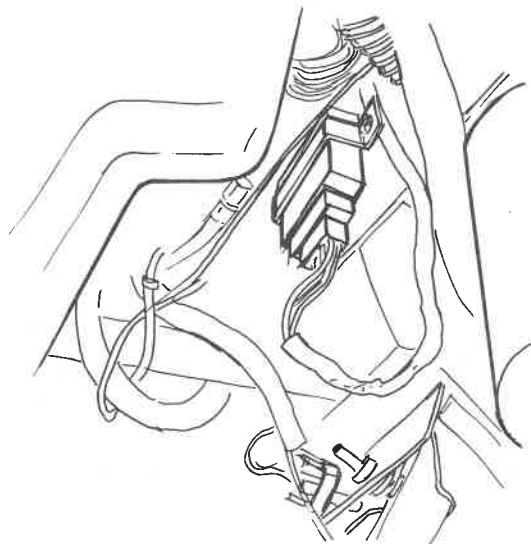

Fig. 36-29. Flasher device
1. Remove the screws securing the flasher device, see Fig. 36-29.